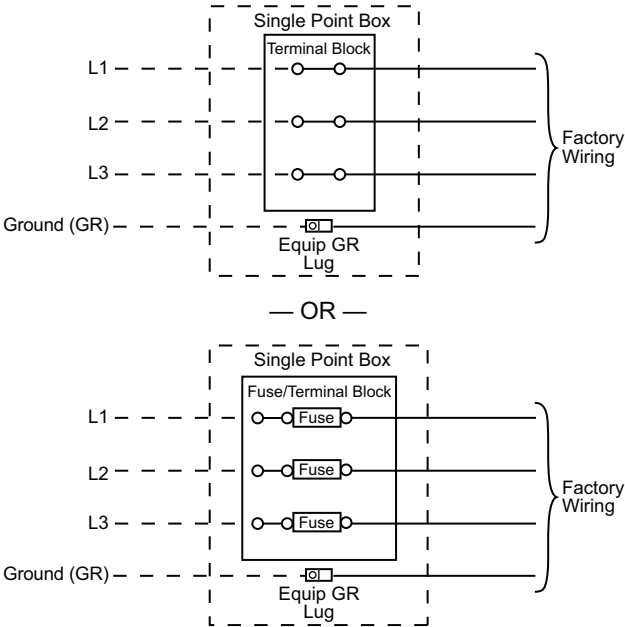

Fig. 18 — Power Wiring Connections
units with single point box (see Fig. 17). See Fig. 18 and unit label diagram for field power wiring connections.
The factory-installed optional non-fused disconnect (NFD) or HACR switch is located in a weatherproof enclosure located under the main control box. The manual switch handle and shaft are shipped in the disconnect or HACR enclosure. Assemble the shaft and handle to the switch at this point. Discard the factory test leads (see Fig. 18).
All field wiring must comply with NEC and all local codes. Size wire based on MCA (Minimum Circuit Amps) on the unit informative plate. See Fig. 18 and the unit label diagram for power wiring connections to the unit power terminal blocks and equipment ground. Maximum wire size is #2 ga AWG per pole.
2. Install power lines to terminal connections as shown in Fig 18.